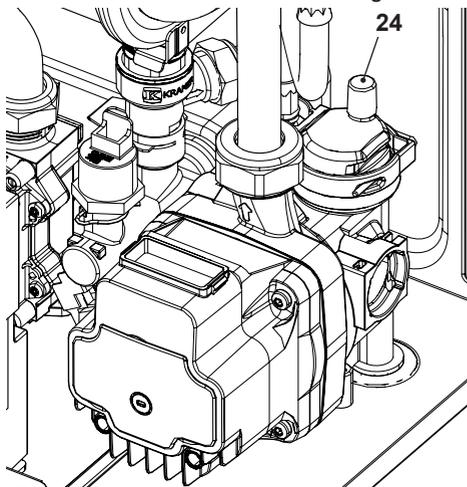

Fig. 10.12
- To make draining easier, lift the plug 24 of the automatic relief valve in Fig. 10.12.